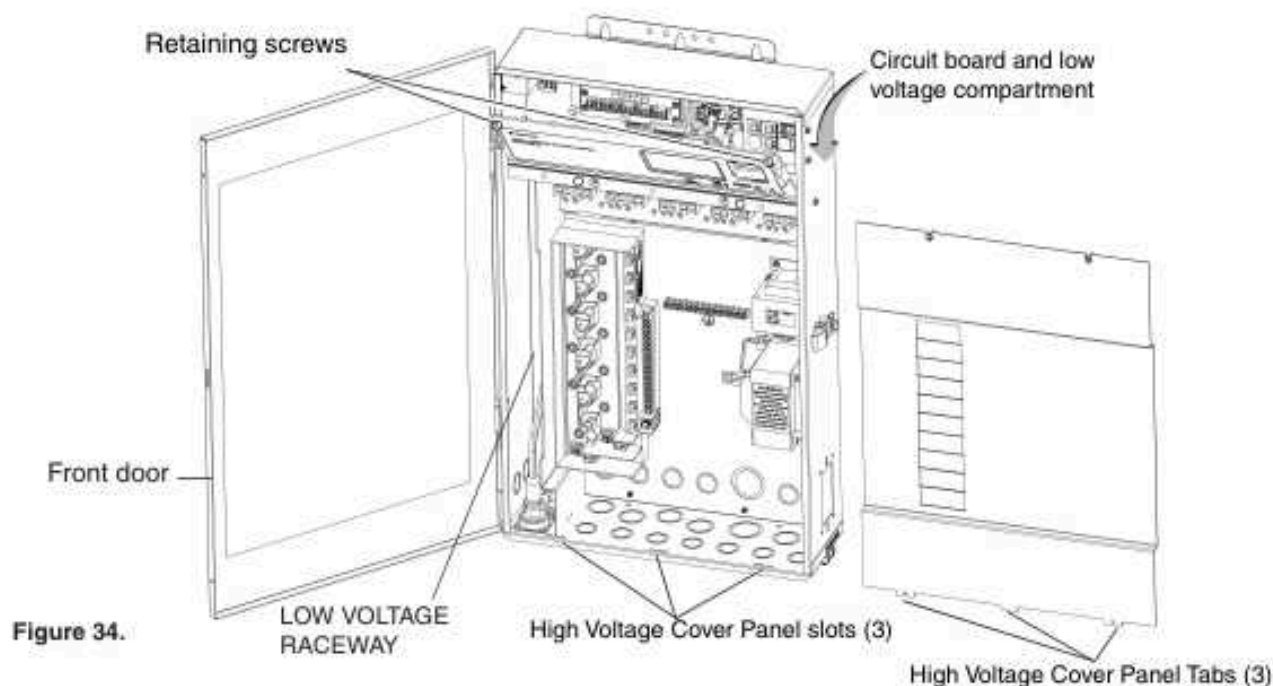

Figure 34.
2. Unlatch the front door latch and open the front door. Remove the two retaining screws from the High Voltage Cover Panel and remove the panel. See Figure 34.